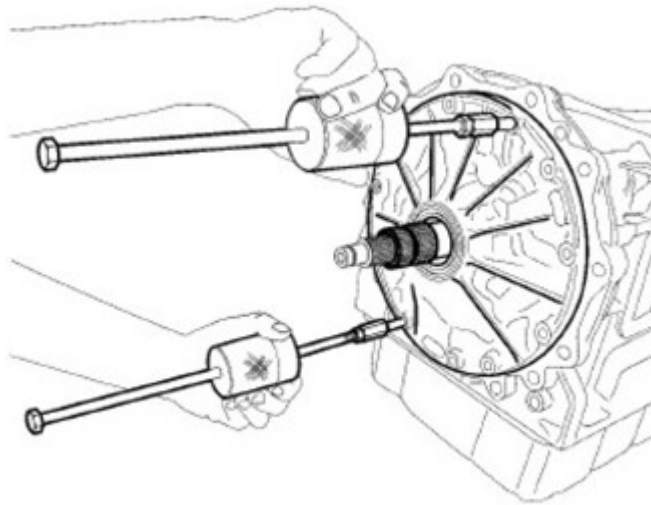

Fig. 5
8. Remove the bolts securing the oil pump to the transmission case and use C-3752 and adapters 9981 to remove the oil pump (Fig. 5) .